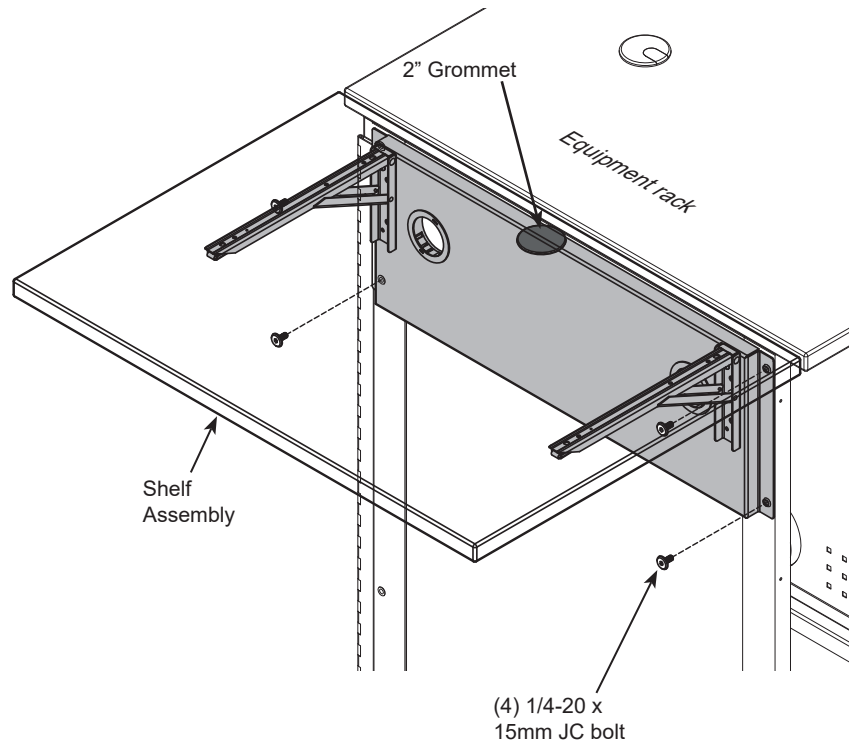

Figure 2
1. Attach the shelf assembly to the equipment rack with (4) 1/4-20 x 15mm JC bolts. **Figure 2.**